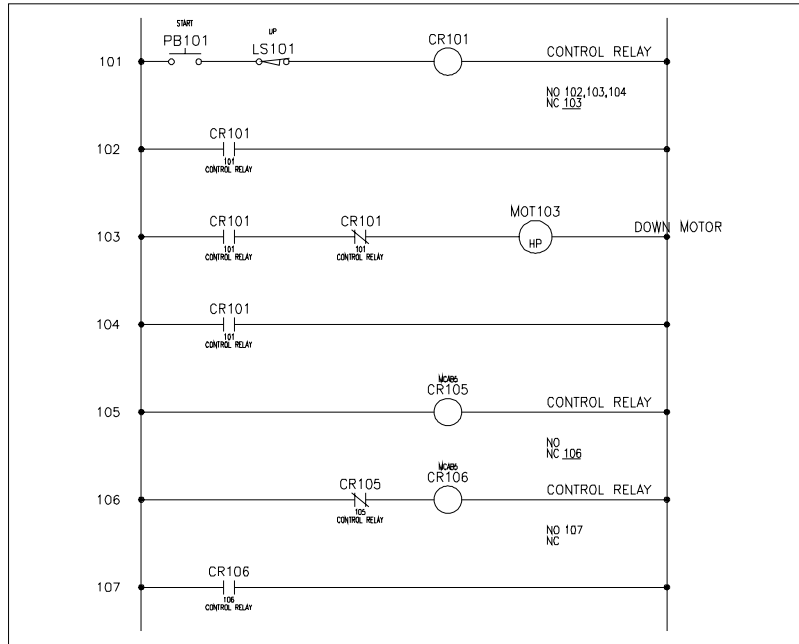

Figure 6-51 The updated drawing
4. Choose the **Skip** button from the **Update Related Components?** dialog box; the location codes are assigned to the selected components. If the **QSAVE** dialog box is displayed, choose the **OK** button in this dialog box; the drawings get updated and MCAB5 is displayed on the CR105 and CR106, as shown in Figure 6-51.